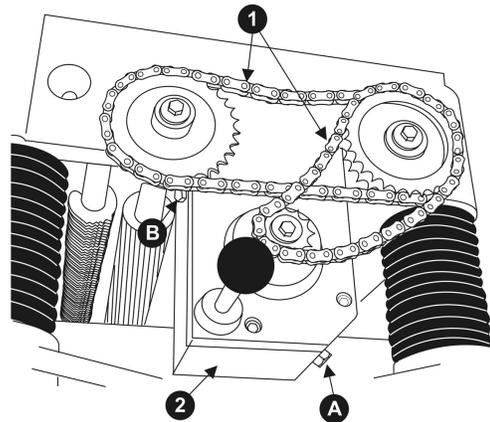

Figure 33
1. Remove the drain plug (A, Figure 33) with a 14mm wrench and remove filler plug (B- Figure 33). Drain dirty oil thoroughly.
2. Tighten the drain plug (A, Figure 33).
3. Fill with clean lubricant through hole (B, Figure 33).
4. Reinstall and tighten filler plug (B, Figure 33).